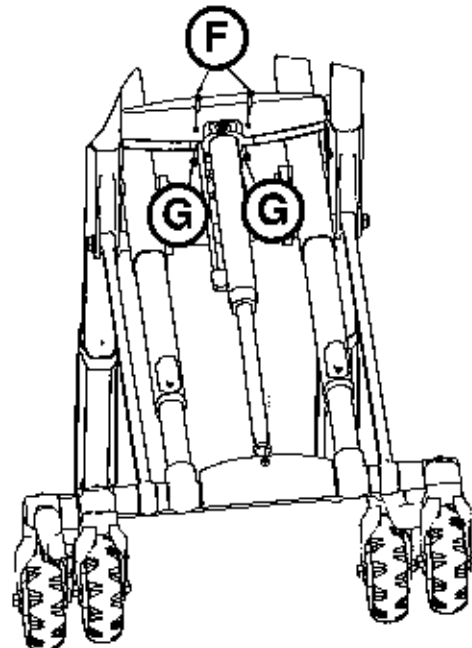

Figure 113
7. Using a 1/8" hex wrench and 3/8" combination wrench, remove the two socket head set screws (F) and Fiberlock hex nuts (G) that secure the hydraulic cylinder to the base (Figure 113).